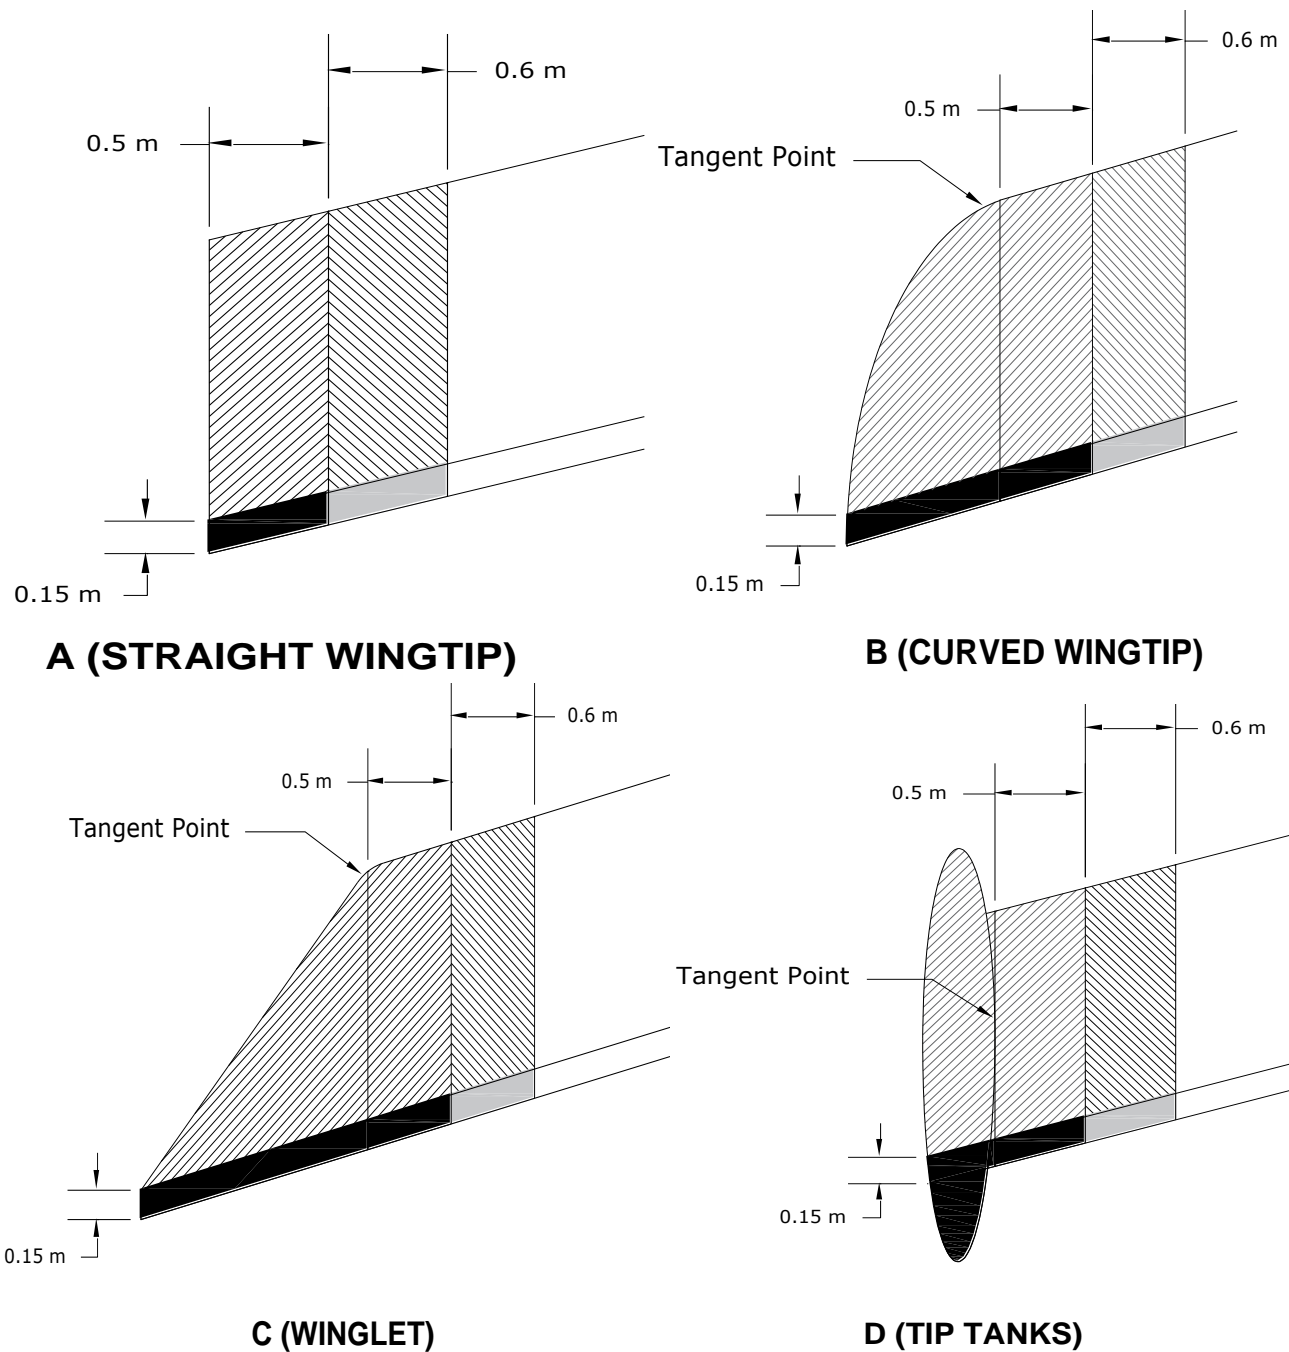
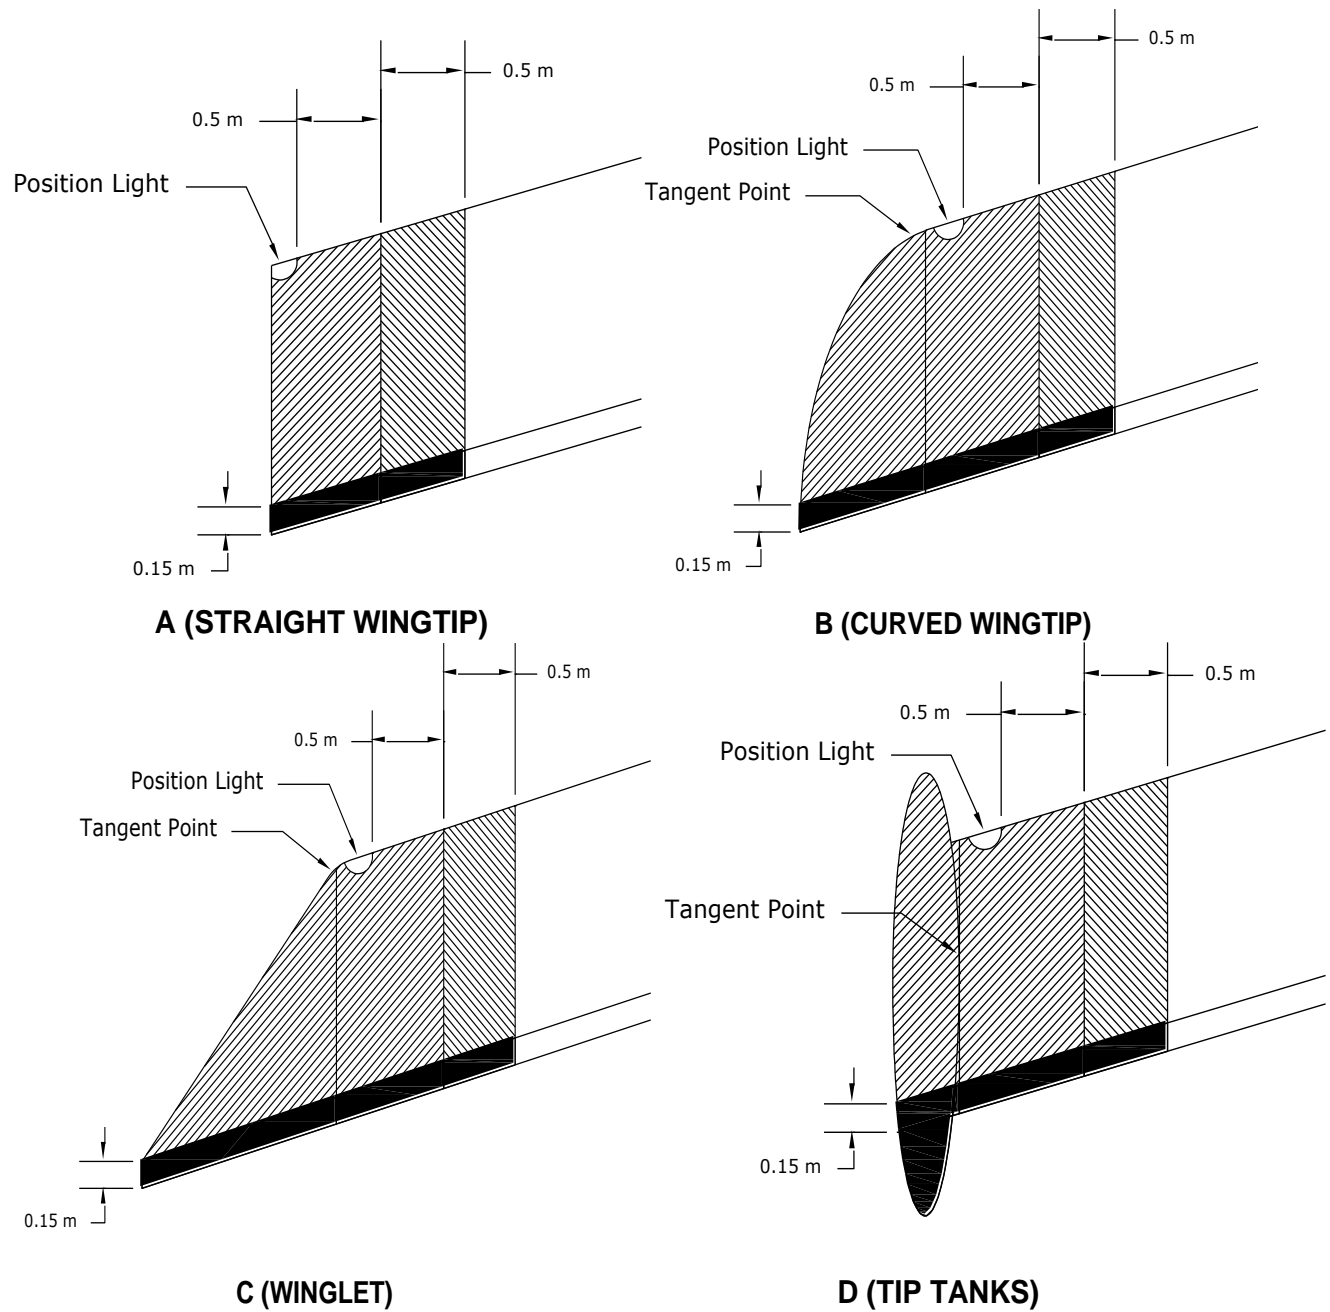
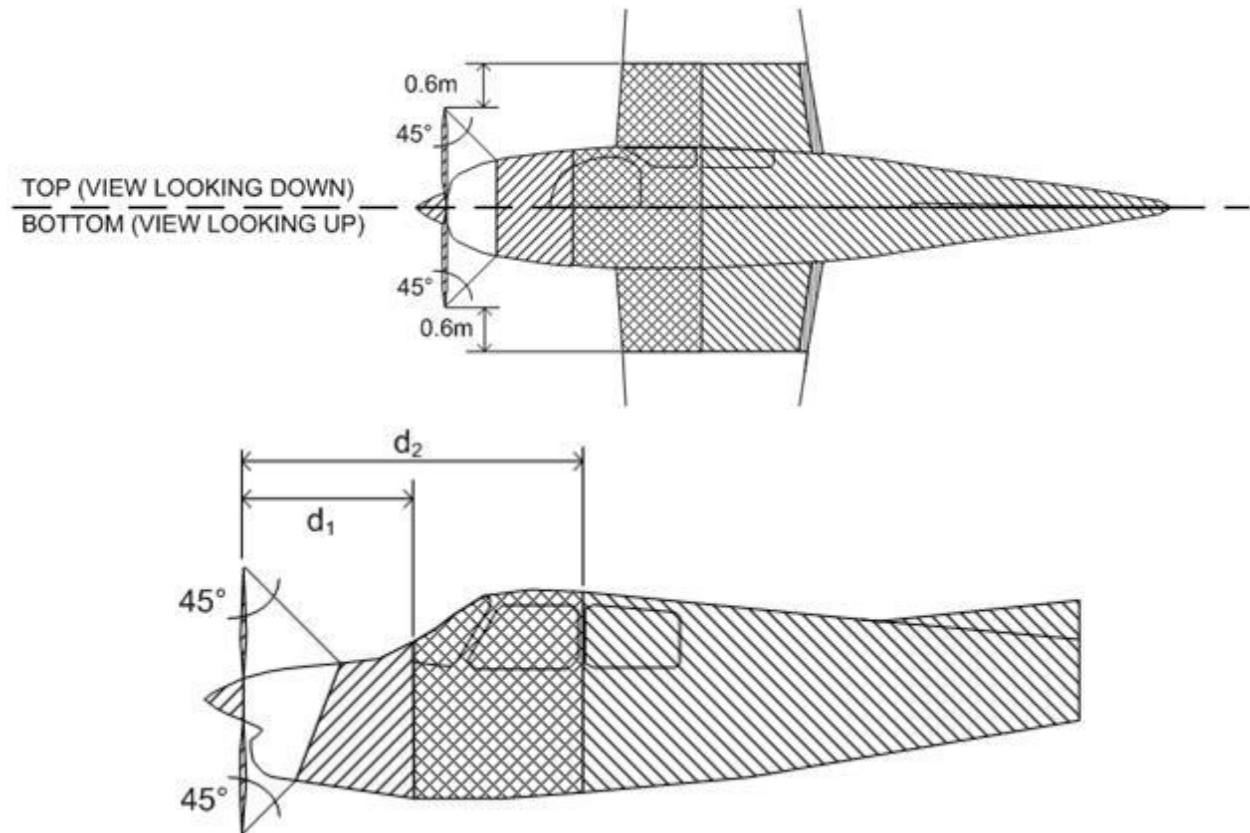
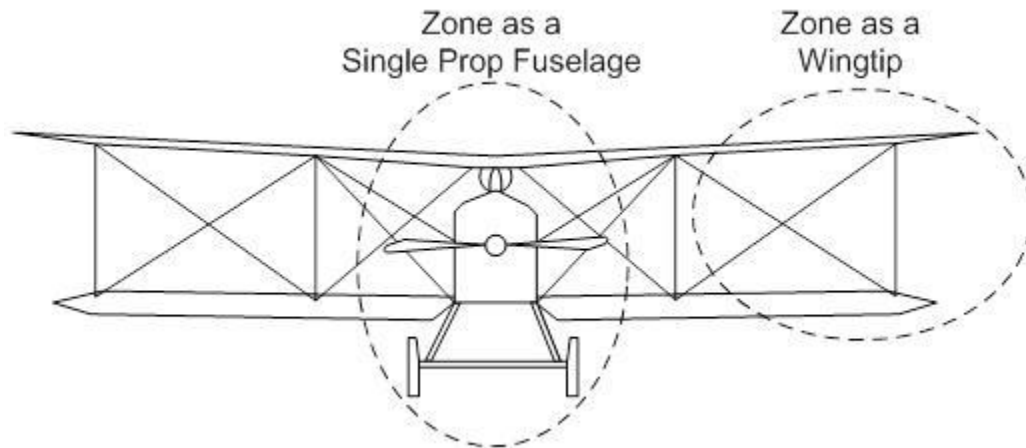

Figure 6-28 Zoning for Wingtips on Aircraft Not Limited to VFR Operation
Figure 6-29 Zoning for Wingtips on Aircraft Limited to VFR Operations
Figure 6-31 Zoning for a Single Propeller (Low- or High-Wing)
Figure 6-40 Zoning for Single-Propeller Biplane
Zoning of various types of wingtips is shown in Figure 6-28. Figure 6-28A shows zoning for straight wingtips. Figure 6-28B shows zoning for curved wingtips. The zones are similar to those of straight wingtips. The main difference is that Zone 1 extends from the outboard edge of the wing past the tangent point of the chord and 0.5 meters inboard.
- Zone 1A/1B finishes as shown in Figure 6-29 **or** 0.5 meters inboard from the inboard edge of the position light, whichever is the greater distance from the outboard edge of the wing tip, as shown in Figure 6-28
Zoning of low- or high-wing aircraft with single propellers is shown in Figure 6-31. The area of the nose immediately aft of the propeller is Zone 3. The 0.6 meter distance should be measured from the outboard most edge of the fuselage or the tip of the propeller, whichever is longer. Figure 6-33 shows the case of an aircraft with a curved fuselage. The portion of the fuselage that extends 1.3 meters aft of the propeller blades is Zone 1C. However, the bottom centerline is Zone 2A, and it is acceptable to mount the GTP 59 there.
Figure 6-40 shows how biplanes can be classified using the figures from above. The top and bottom of both wings will be zoned using Figure 6-29, while the fuselage and the mid-sections of the wing can be zoned using Figure 6-31.